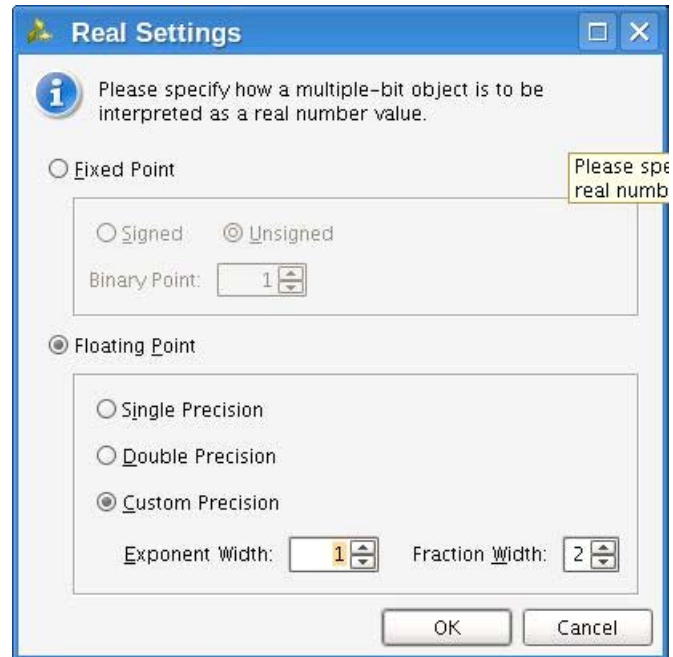

Figure 6-3: Real Settings Dialog Box
- Real radixes cause bus values to be interpreted as fixed point or floating point real numbers, as determined by the settings of the **Real Settings** dialog box, shown in Figure 6-3, page 76.